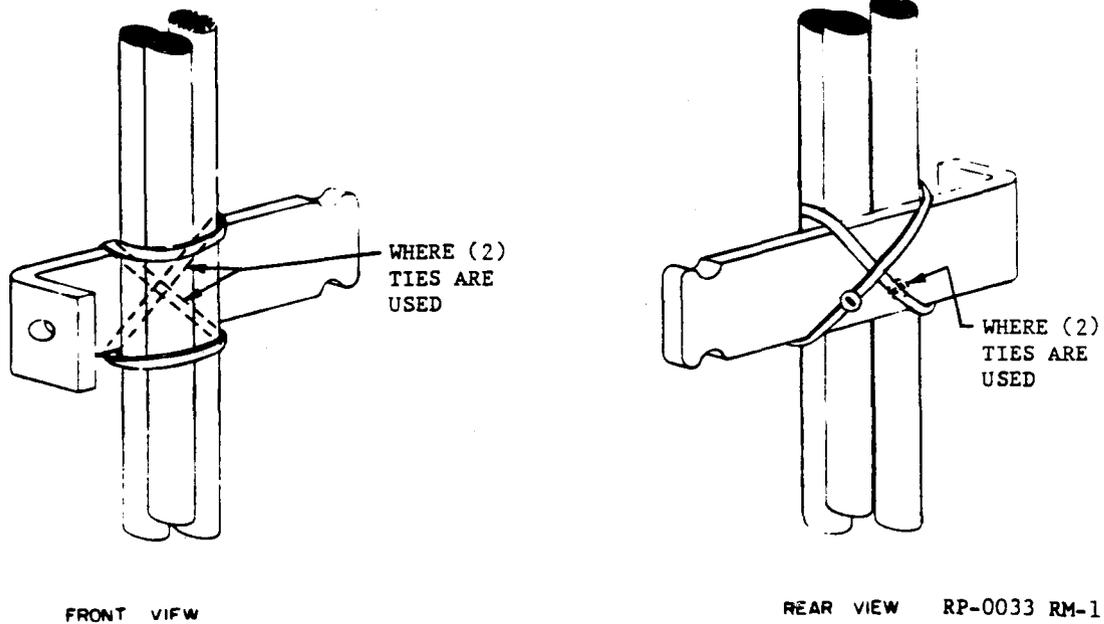

FIG. 3 SECURING AT CABLE BRACKETS
3.207 Where loose wire, local cable, or sewed forms are secured to cable brackets, the head of the tie shall be positioned on the side of the bracket opposite the side on which the wiring is run. (Refer to FIG. 3).
3.208 When using cable ties to secure forms or cables to cable brackets or other wiring supports, the ties shall always be applied with the crossover (X) in the rear as shown in FIG. 3.
be accommodated by the largest (single) cable tie, it is permissible to secure the form using two or more ties applied in a crisscross (X) fashion. Or, they may be secured with approved twine in the normal manner. (Refer to FIG. 3 and Handbook 8, Section 340). When securing power wiring or armored cable to cable brackets or other similar-type supports, it is only permissible to use one intermediate size cable tie applied in accordance with Figure 3.